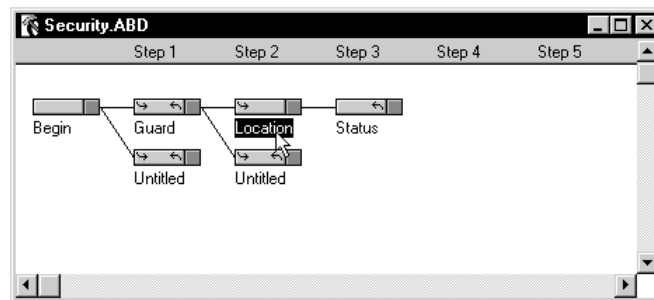

Figure 4-34 “Location” Handler Selected
8. Click the “Location” Handler (Figure 4-34).